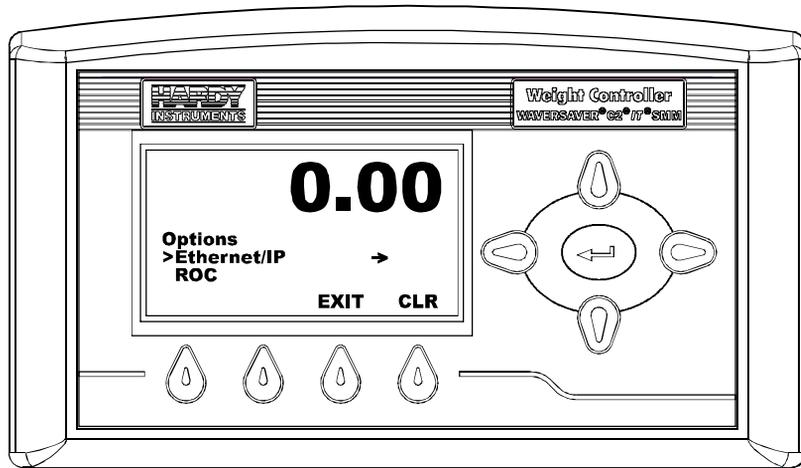

FIG. 138 OPTIONS MENU
Step 5. Press the Enter button. The Options Menu appears. (See Fig. 138)